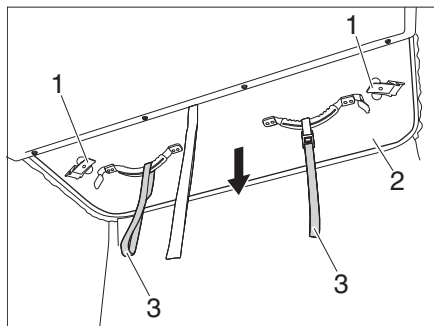
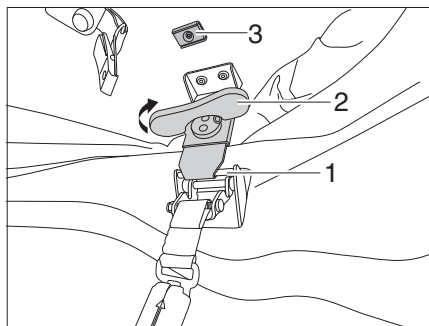

Fig. 52 Pulling the pop-up roof downwards
Fig. 53 Tensioning the locking mechanism
- ▷ Ensure that the locking levers (Fig. 52,1) are attached to the magnet at the top.
- Check whether the locking mechanism are secured by the magnets (Fig. 53,3).
- Use the pulling devices (Fig. 52,3) to pull the pop-up roof (Fig. 52,2) downwards.
- Remove the locking lever (Fig. 52,1) from the magnet (Fig. 53,3) and insert it into the catch (Fig. 53,1).
- Turn the twist grip (Fig. 53,2) of the locking mechanism clockwise until the locking mechanism is fastened.
- Fold the twist grip (Fig. 53,2) upwards.